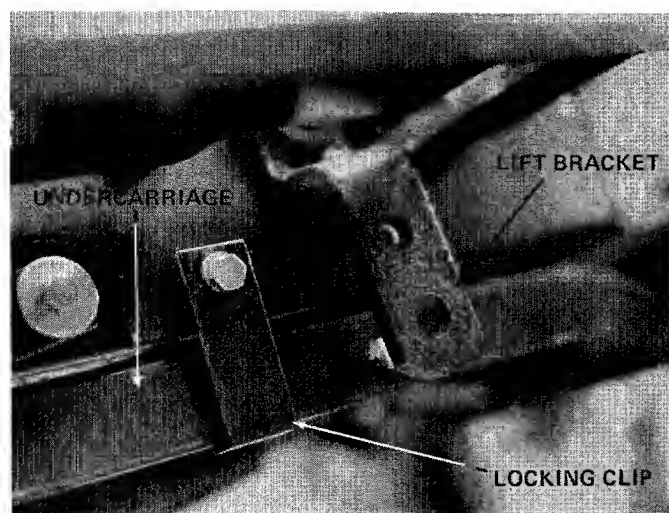

FIGURE 12
4. Turn locking clips around and reassemble to tractor as shown in figure 12. Be sure the locking clip is under edge of undercarriage.